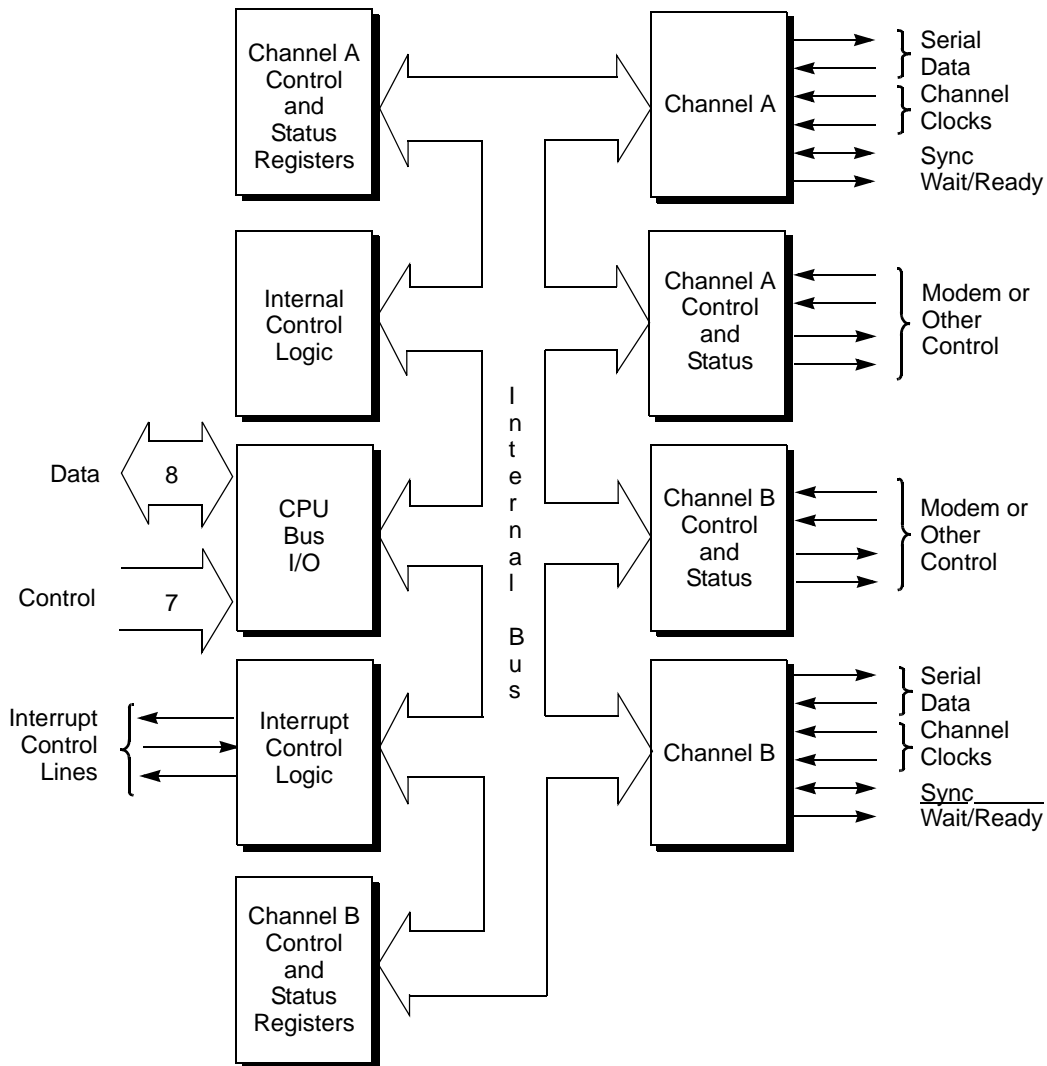

Figure 5. SIO Block Diagram
**Serial I/O Logic Unit.** This logic unit provides the user with two separate serial I/O channels that are completely compatible with the Z84C4x SIO (see Figure 5). Their basic functions as serial-to-parallel and parallel-to-serial converters can be programmed by a CPU for a broad range of serial communications applications. Each channel, designated Channel A and Channel B, is capable of supporting all common asynchronous and synchronous protocols (Monosync, Bisync and SDLC/HDLC), byte- or bit-oriented.